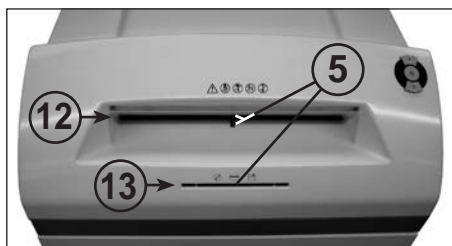

fig. 3
Feed **data carriers** (CD, DVD or credit card) into the cutting mechanism individually into the separate CD/DVD feed slot (13) (fig. 3).